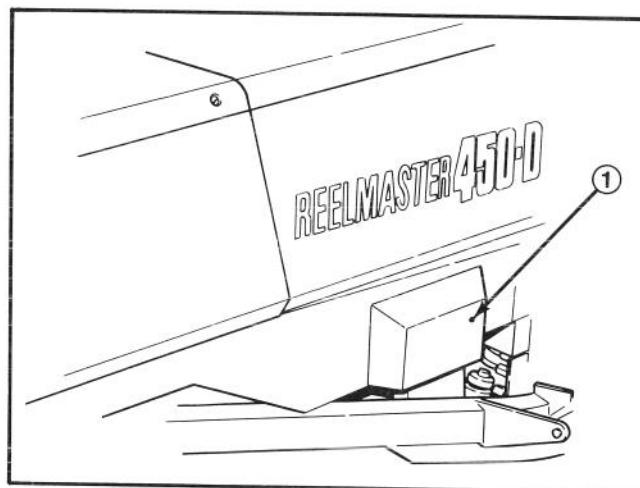

Figure 8
**Note:** To gain better access for mounting the #1 cutting unit remove the panel on the right rear side of the machine (Fig. 8).